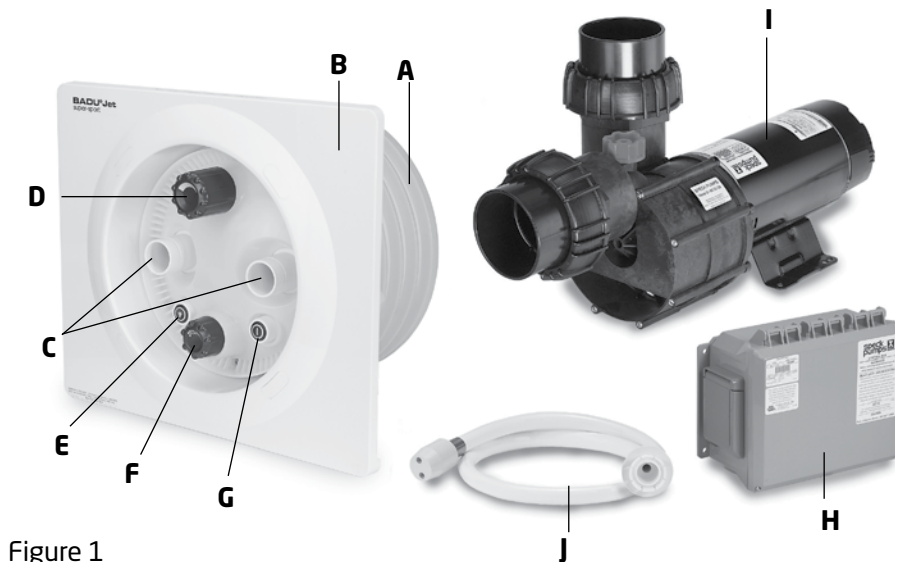

Figure 1
2. Inspect the contents of each carton and verify that all parts are included. (See Figure 1)